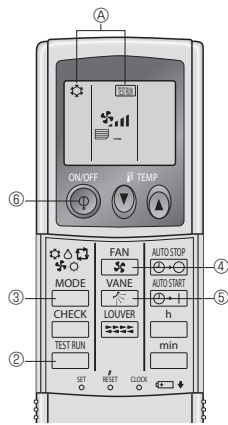

Fig. 7-2
7.2.2. Using wireless remote controller (Fig. 7-2)
- ① Turn on the power to the unit at least 12 hours before the test run.
- ② Press the button twice continuously.